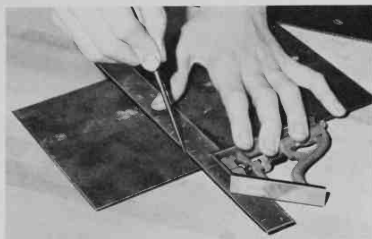

Fig. 4-13. Left, Marking a line across the stock with a combination square and a scriber. Fig. 4-14. Right, Applying layout fluid to piece of metal.
3. Mark a square line across stock at the correct length by placing a square over the stock, Fig. 4-13. The straight edge of the square head must be held firmly against the edge of the stock. Holding the scribe at a slight angle away from the blade of the square, and slanted slightly along the direction the line is to be drawn, mark a line across the stock. Cut off stock to length.